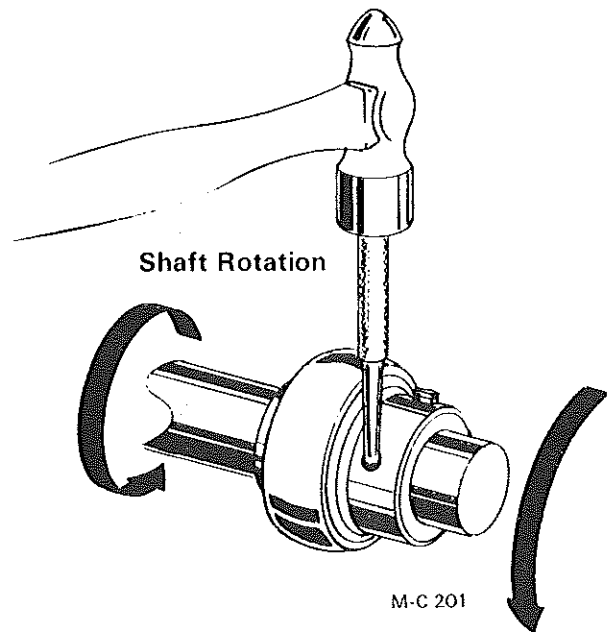

Figure 33
6. With the drift pin in the collar hole, strike in the direction of shaft rotation to lock, see Figure 33.